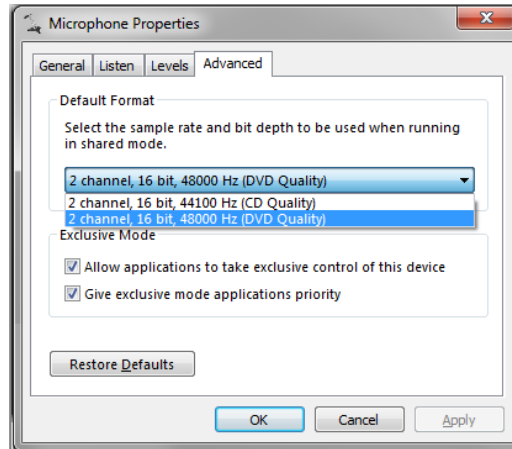

Figure 17: Advanced Tab in Microphone Properties
- Sampling rate¹ of the USB Audio device can be changed using the *Advanced* tab in *Microphone Properties* window shown in Figure 17.